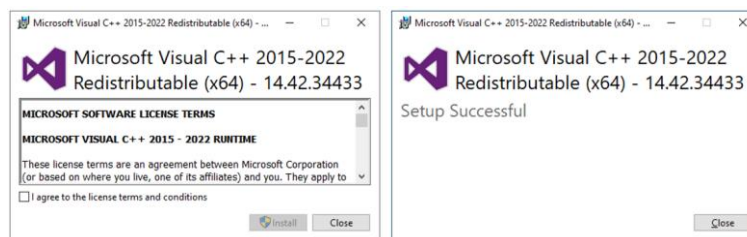

Figure 4-2: Installation Complete
- Step 3:** Run the VC_redist.x64.exe file. The InstallShield Wizard prepares the setup as shown in **Figure 4-2**.